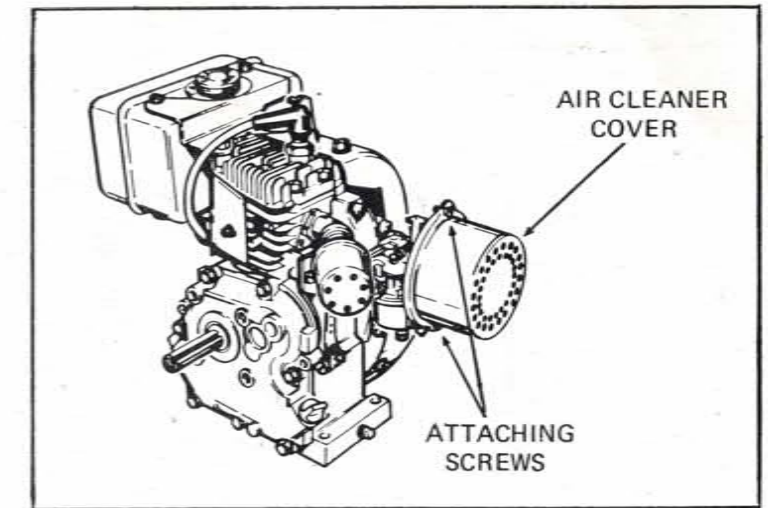
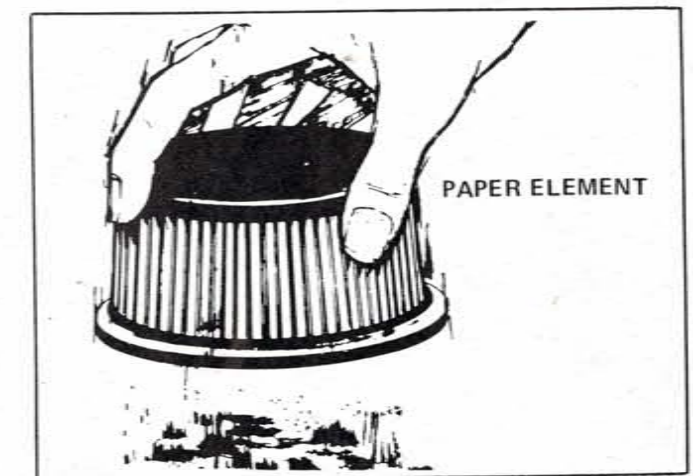

Figure 13
Figure 15
3. Check air cleaner (Figure 13)—Be sure it is in place and cover is securely locked in place. It is a paper element type cleaner which will reduce engine power when it becomes clogged with dirt. Refer to Fig. 15 for air cleaner maintenance.
The air cleaner should be removed frequently and tapped lightly against a solid surface (Fig. 15) which will dislodge loose dirt accumulation. The pores will eventually clog (engine will begin to lose power and at this point it will have to be replaced. Your Tecumseh dealer stocks them.